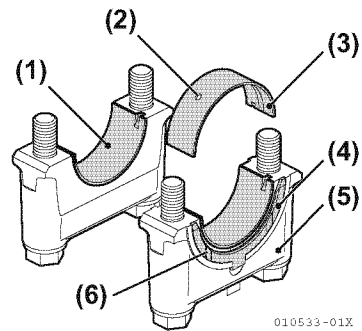

Figure 5-54
51. Remove the main bearing cap and lower main bearing (**Figure 5-54**).